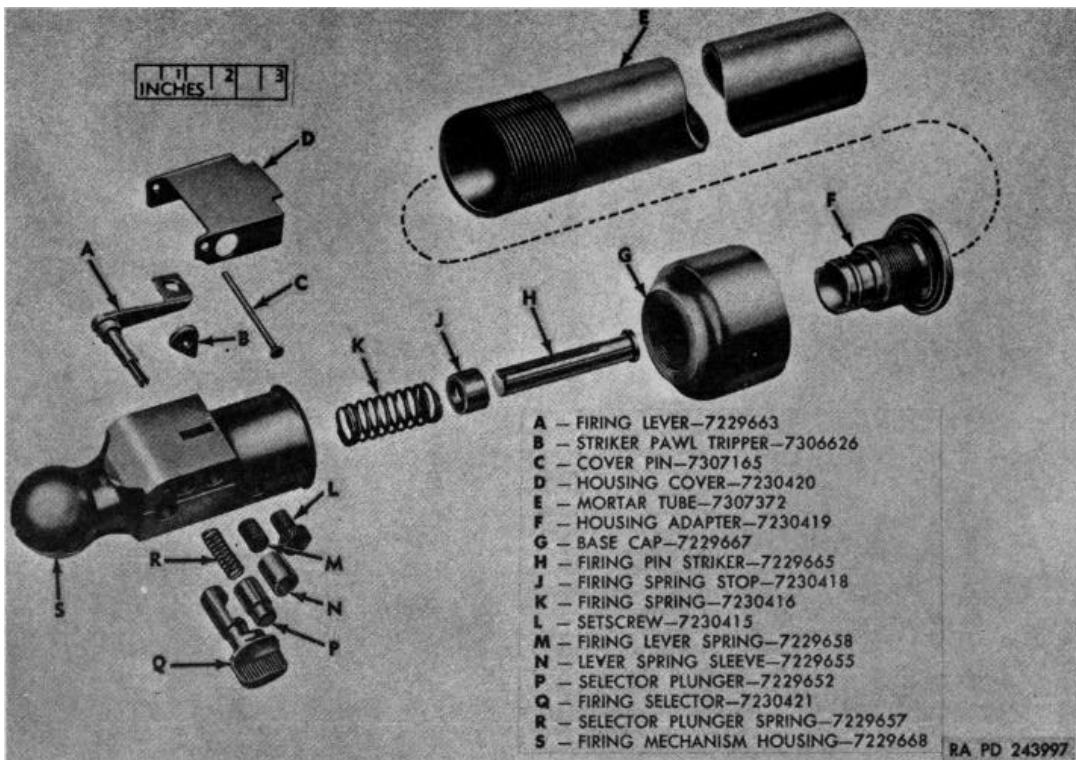
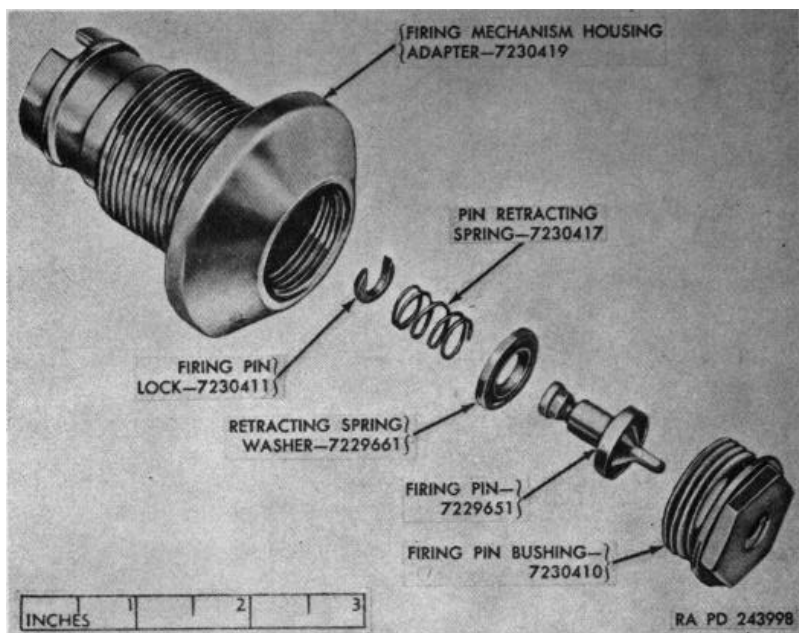

Figure 13. Firing mechanism assembly 7229669--exploded view.
Figure 14. Firing mechanism housing adapter and related parts.
**Note.** They key letters shown below in parentheses refer to figure 13.
a. Clamp mortar tube (E) in formed jaws and, with a strap wrench, remove the base cap (G) and firing mechanism housing (S).
b. Loosen knurled setscrew (L) and unscrew the firing mechanism housing from the base cap.
d. Unscrew the firing pin bushing from the firing mechanism housing adapter and remove the firing pin (fig. 14) with assembled parts. Remove firing pin lock by pressing it slightly against the spring and then remove the pin retracting spring and retracting spring washer from the firing pin (fig. 14).
**Note. The key letters shown below in parentheses refer to figure 13.**
a. Assemble firing pin unit as outlined in (1) through (4) below.
(1) Place retracting spring washer on firing pin and follow with pin retracting spring (fig. 14).
(2) Press firing pin lock over the spring until open ends of lock engage small undercut in firing pin and then press lock inward until it snaps back into position on firing pin (fig. 14).
(3) Set the firing pin with assembled parts into the firing mechanism housing adapter and screw the firing pin bushing into the firing mechanism housing adapter (fig. 14).